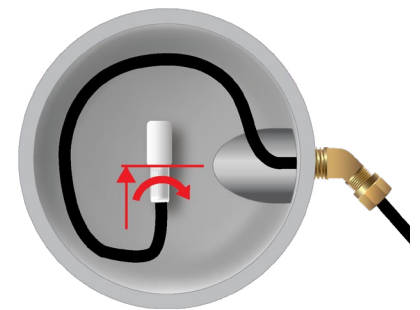

Figure 3.4.4a Fiber Connected into Optic Transmitter in Bar
7. Tighten the compression fitting. (See Figure 3.4.4a)